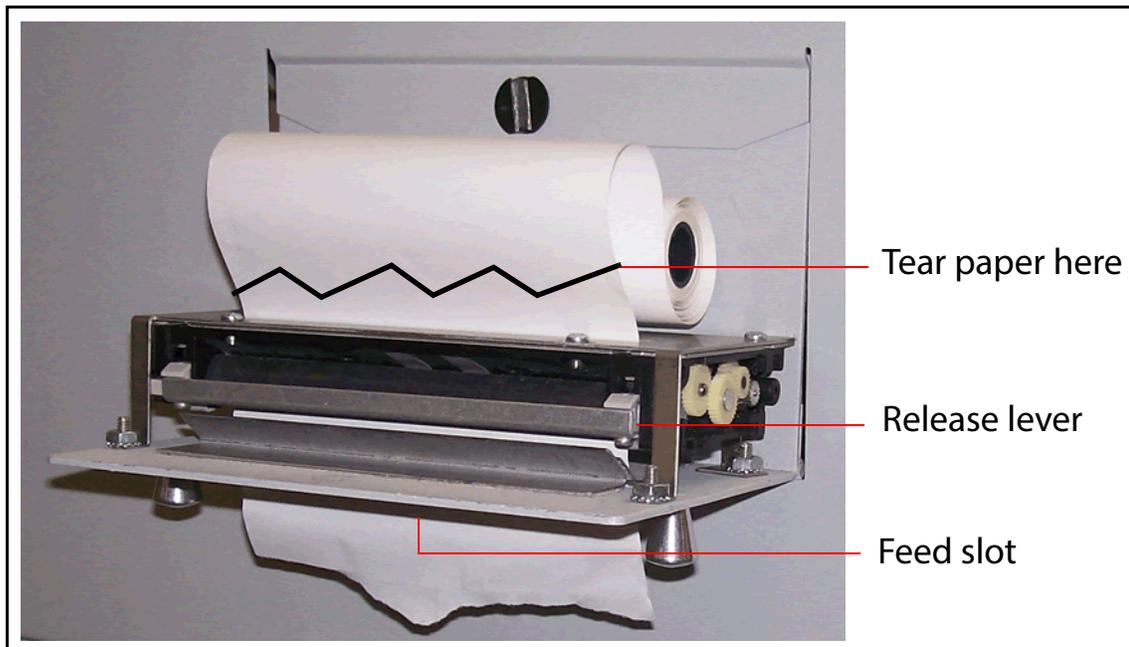

Figure 3-77: Paper removal
4. Place a new roll of paper on the metal shaft and install the roll in the printer so that the paper will feed from the top of the roll (see Figure 3-77). The paper will automatically feed into the printer.